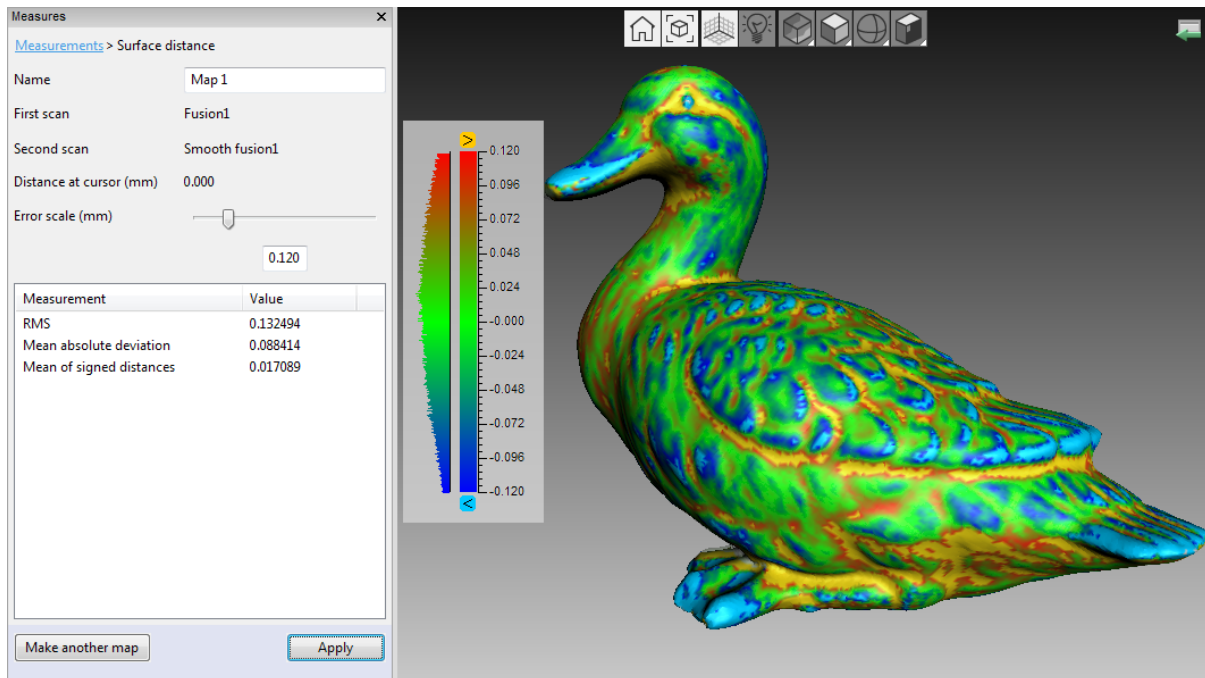

Figure 9.13: Surface-distance map calculated for two models.
5. Click *Calculate*. Once the process is complete, the distance map will appear in the *3D View* window and the calculation results in the *Measures* panel (see Figure 9.13).